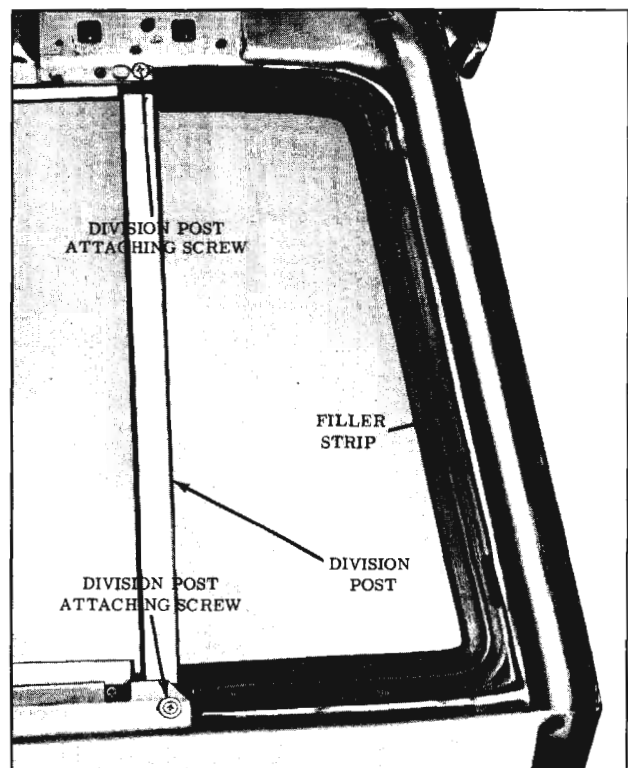

Fig. 16-293 Back Door Stationary Side Window
2. Disengage rubber channel filler strip from stationary window rubber channel by pulling filler strip inboard. (Fig. 16-293)
4. Remove division post assembly upper and lower (at belt) attaching screws. (Fig. 16-293) Using normal hand pressure, move division post towards center of door to provide glass clearance.
5. Position division post against edge of dropping glass and install upper and lower division post attaching screws. (Fig. 16-293)